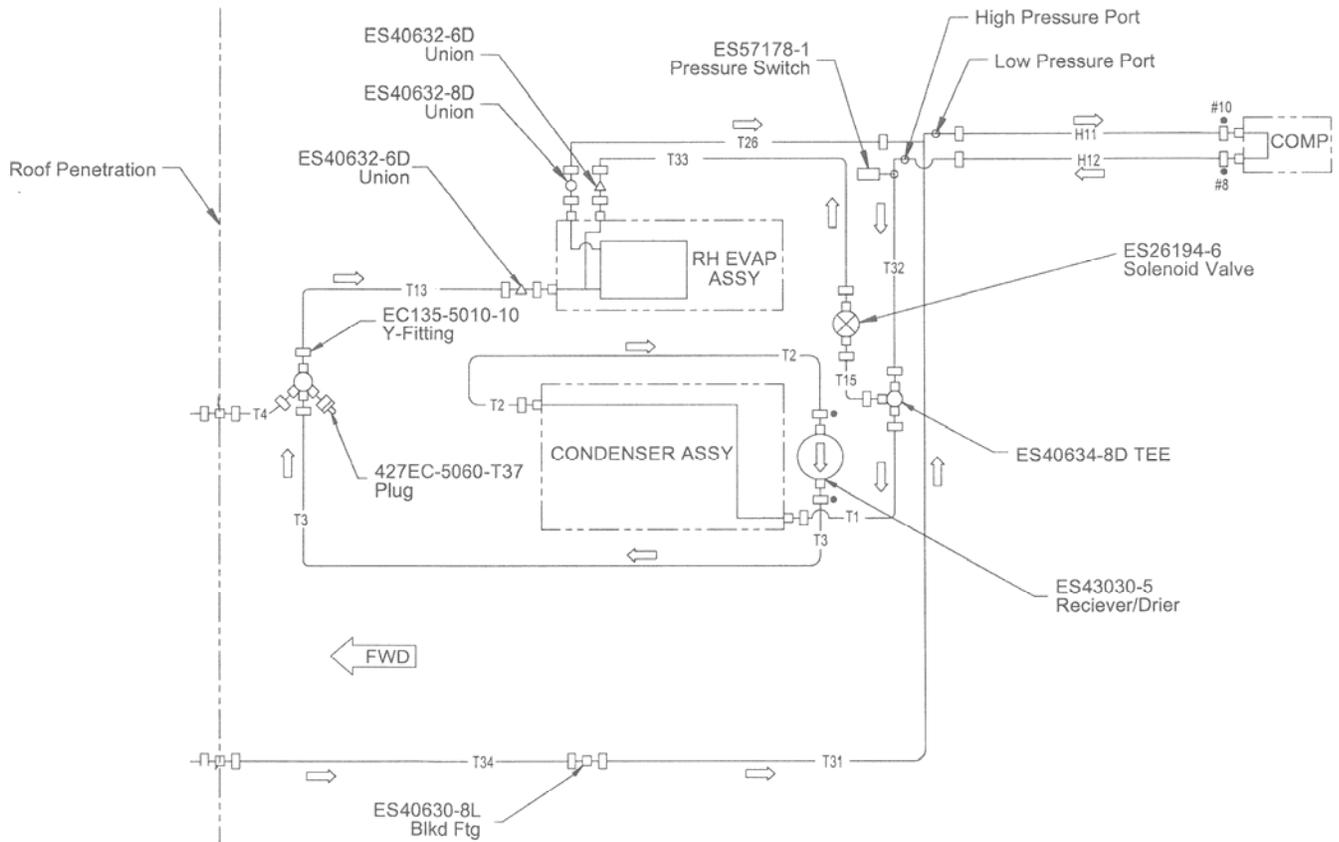

Figure 13: Single Aft Evaporator Plumbing Schematic
5. Install 429EC-5020-T34 Tube Assembly to existing ES40630-8L Bulkhead Fitting, see Figure 13.